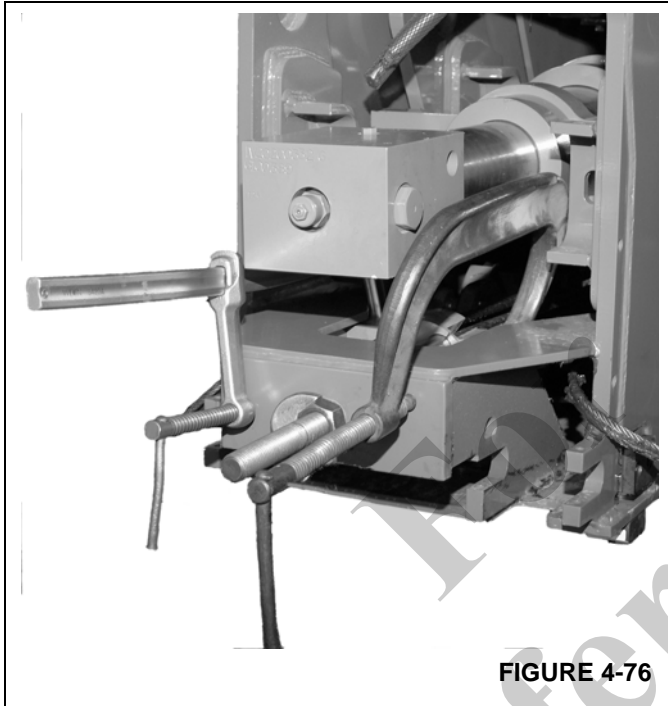

FIGURE 4-76
27. Carefully clamp the anchor assembly to the Inner Mid anchor weldment (Figure 4-76).